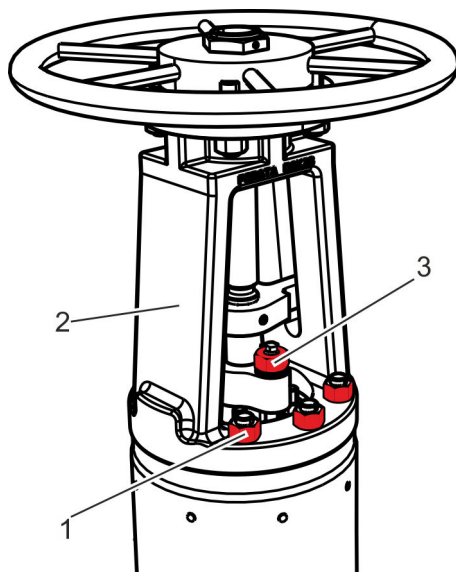

Fig. 22: Removing the bonnet and packing bolt
Unscrew the nuts (Fig. 22/1) and remove together with the washers.
3. → Unscrew and remove the gland nuts (Fig. 22/3).
5. → Lift off the bonnet (Fig. 22/2) and if applicable the anti-twist device upwards.